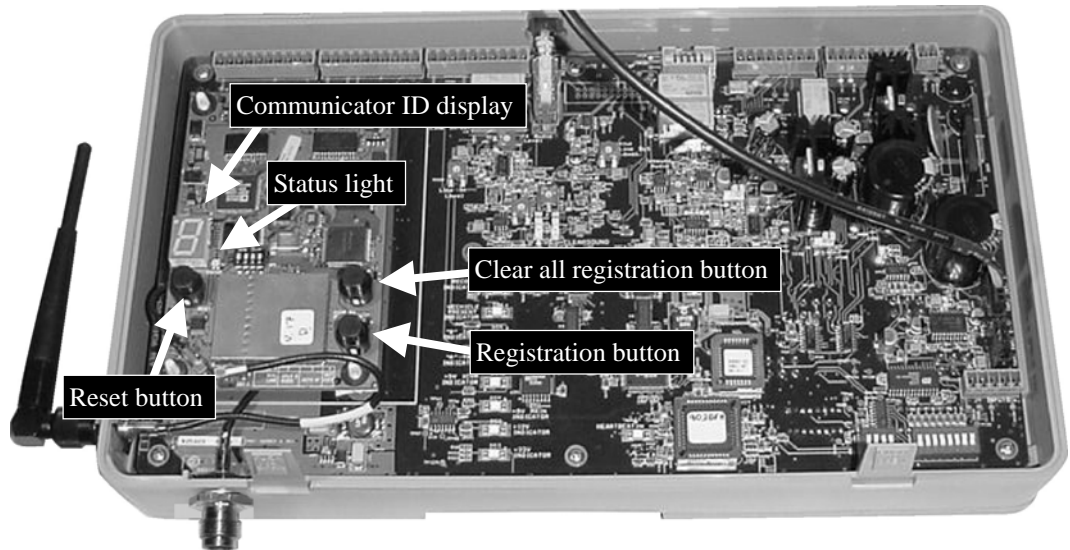

Figure 5. Registration buttons and indicators
A maximum of 15 Communicators can be registered. If one is replaced, you must register the new one before you use it. When a Communicator is replaced, the old one remains in memory. If the maximum number of 15 (in memory) is exceeded, the Communicator ID display in the base station will show “F” for full. See Figure 5. If this happens, you must clear all current registrations and re-register all active Communicators. To clear all current registrations, press the “Clear All Registration” button and the “Reset” button at the same time. Refer to Figure 5 on page 6. Continue holding the “Clear All Registration” button after releasing the “Reset” button, until the clear code “c” (lower case) appears on the Communicator ID display. Register all active Communicators the same way, one at a time.
- Locate the items shown in Figure 5.